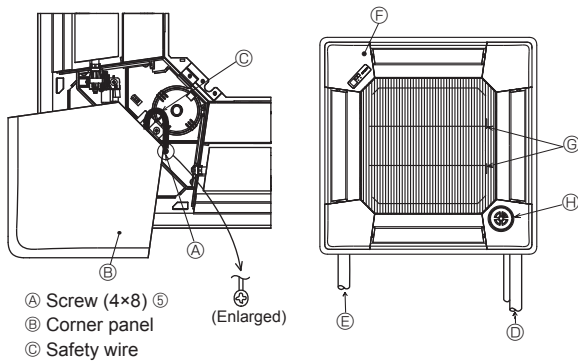

Fig. 6-9
6.5. Installing the intake grille (Fig. 6-9)